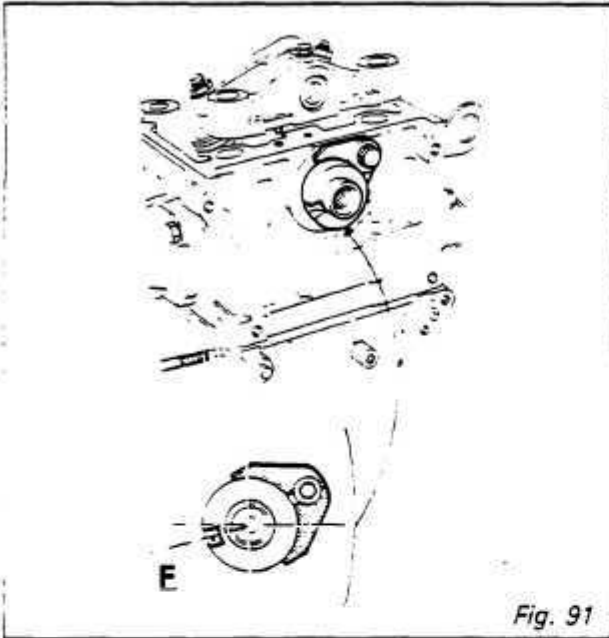

Fig. 91
A—RH cylinder head: carry out the same operation for the RH cylinder head. Line up the RH camshaft so that its slot (F) is positioned as shown. This corresponds to the "on the rock" position of the rocker arms for No. 6 cylinder. Fit the rocker arm assembly, taking care to place it the correct way round. (Fig. 91)